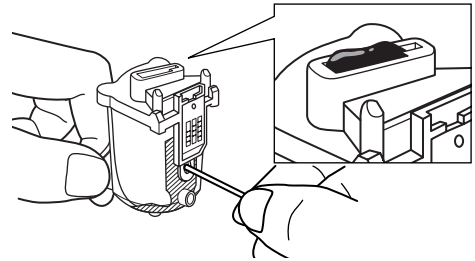

Fig. 1-40
- a. Press the protective sheet of the ink bag slowly using the pin until the ink accumulates as shown in the Fig. 1-40.